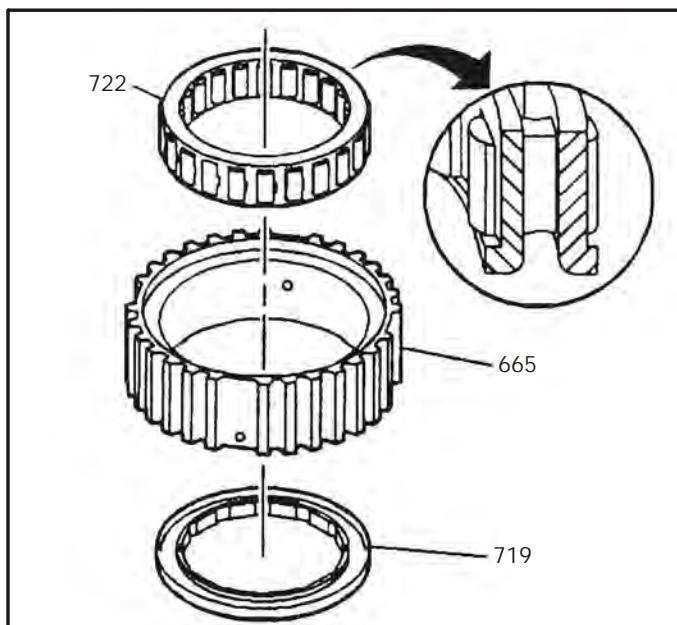

Figure 97
3. Place the input clutch sprag outer race on a flat work surface with the machined step facing up, as shown in Figure 97.
4. Install one of the end bearings (719) into the outer race with the step facing up, as shown in Figure 97.
5. Insert the input clutch sprag assembly (722) in the outer race, as shown in Figure 97.
**Note:** Position the input sprag so that the lip is facing **down**, as shown in Figure 97.